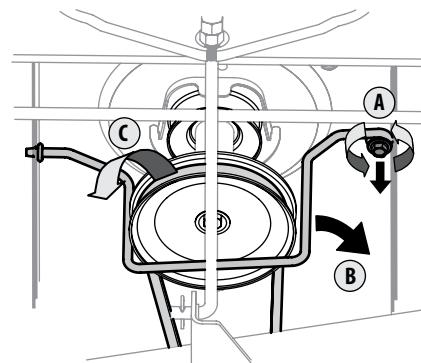

Figure 4-11
3. Remove the belt-keeper rod, from around the rider's engine pulley, by removing the self-tapping screw (A) that secures it. See Figure 4-11.
4. Remove the belt (C) from around the rider's engine pulley and idler pulley(s). See Figure 4-11.